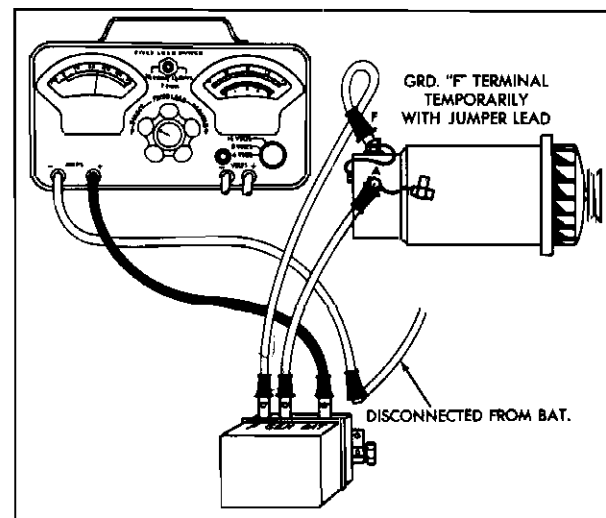

Fig. 11-11 Generator Output Test
2. Connect ammeter leads of Volt-Ampere Tester as shown in Fig. 11-11.